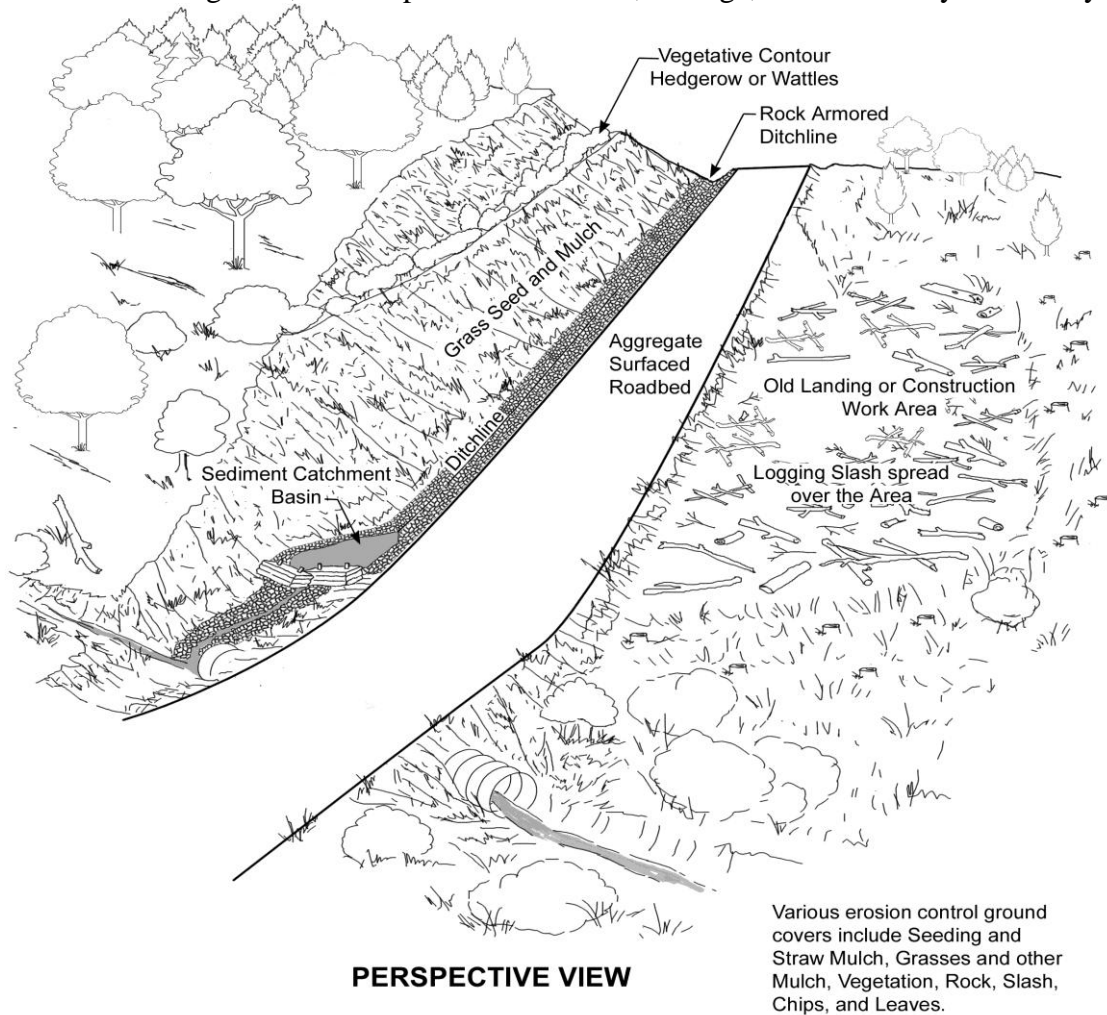

Figure 1.4 Erosion control measures along a road and in disturbed areas.
- Apply erosion control measures to protect exposed soil areas (see Figure 1.4) and use gully stabilization measures;